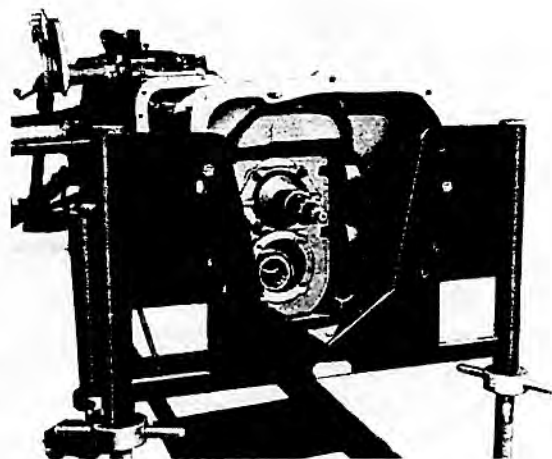

FIG. 13
9. Remove inner snap ring from P.T.O. main drive gear and drive front P.T.O. main drive shaft forwards, so allowing P.T.O. main drive gear to drop to bottom of case. (See Fig. 13).